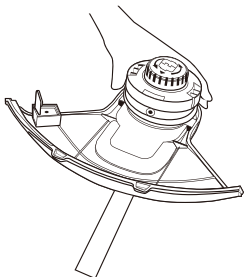

Fig. 12
- b.** Twist the top of the trimmer head in the direction indicated on the top of the trimmer head and place the top and bottom triangles against each other. (Fig. 12)